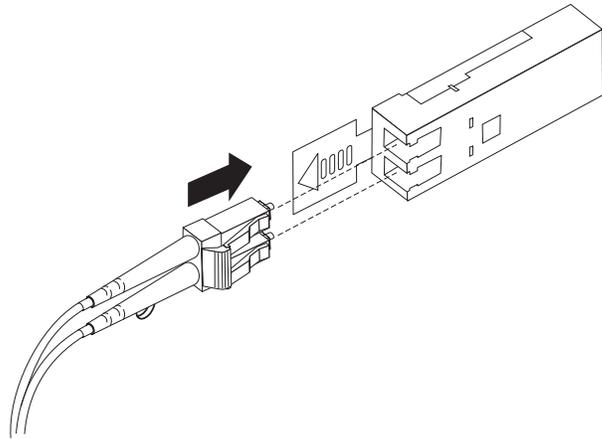

Figure 29. Inserting an LC-LC fibre-channel cable into an SFP module
4. Carefully insert this end of the LC-LC cable into an SFP module that is installed in the EXP420. The cable connector is keyed to ensure it is inserted into the SFP module correctly. Holding the connector, push in the cable until it clicks into place, as shown in Figure 29 on page 44.